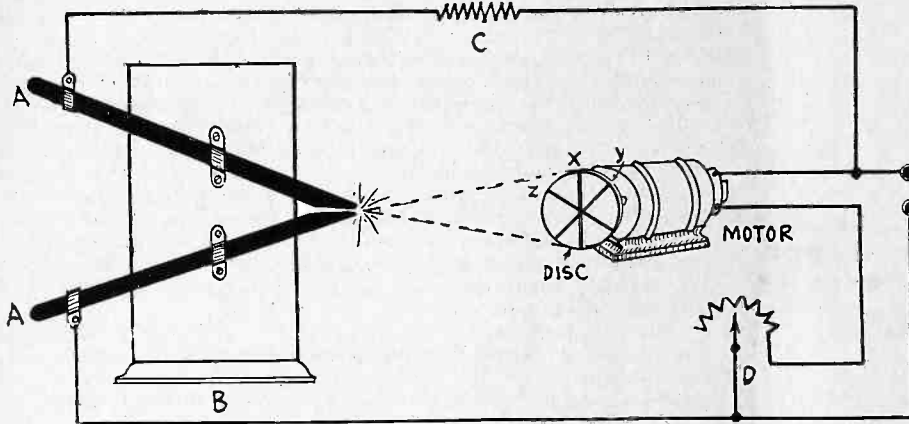

FIG. 1
The television terminals are represented by the twin assembly, the switching is shown, with separate single-pole double-throw, and separate single-pole single-throw, for purposes already outlined, while the binding post assembly at right has marked posts for ground, long antenna (LA on Fig. 1) and short antenna (SA).
Fig. 1 shows an arrangement of the connections of the apparatus necessary to show when a motor, at a given speed has reached synchronism.